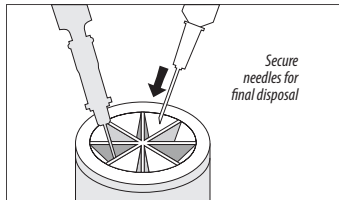

Fig. 14
- Using one-handed technique, firmly push needles into disposal cup holes (refer to Fig. 14).